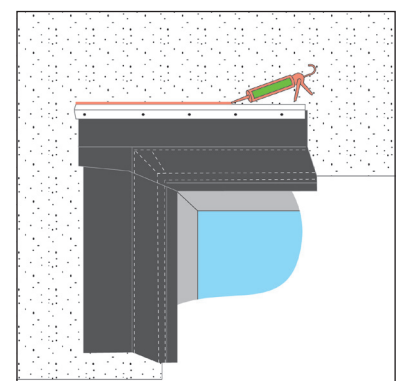

Fig 4: Final Stage - Safety Trim Sealing with illbruck OT015 Paste Adhesive
- Seal the upper edge of the trim at an angle of 45° using illbruck OT015 Paste Adhesive. (see Fig. 4)